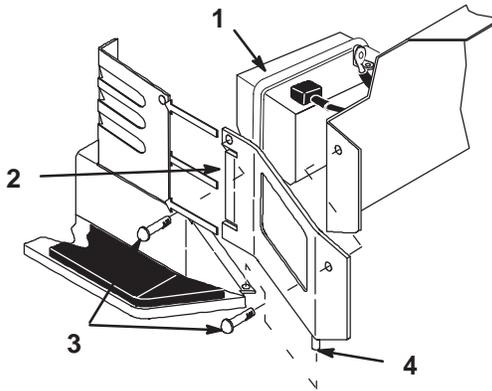

Figure 39
3. Remove side panels for clearance when removing battery (Fig. 39). Remove screws and lift up to clear pin and slide panel tabs out from steering tower.
1. Install the battery into the tractor (Fig. 39).
5. Install side panels by sliding tabs into steering tower and inserting pin into flange of footrest. Secure with screws (Fig. 39).